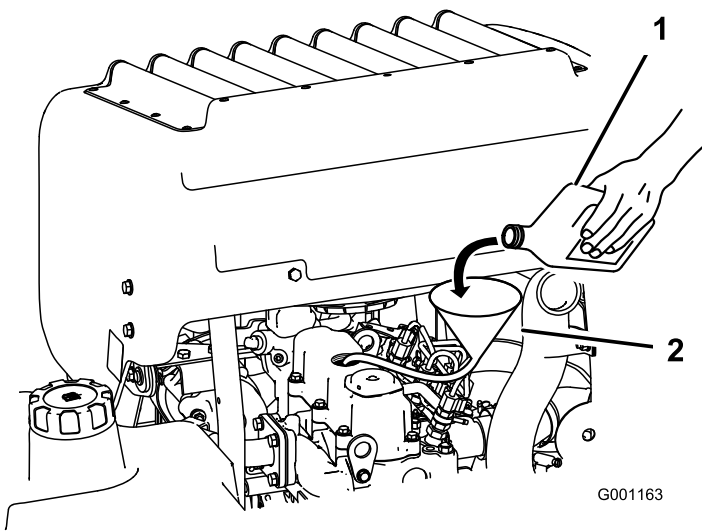

Figure 46
3. To add oil to the engine, locate and use a hose and funnel for adding oil (Figure 46).